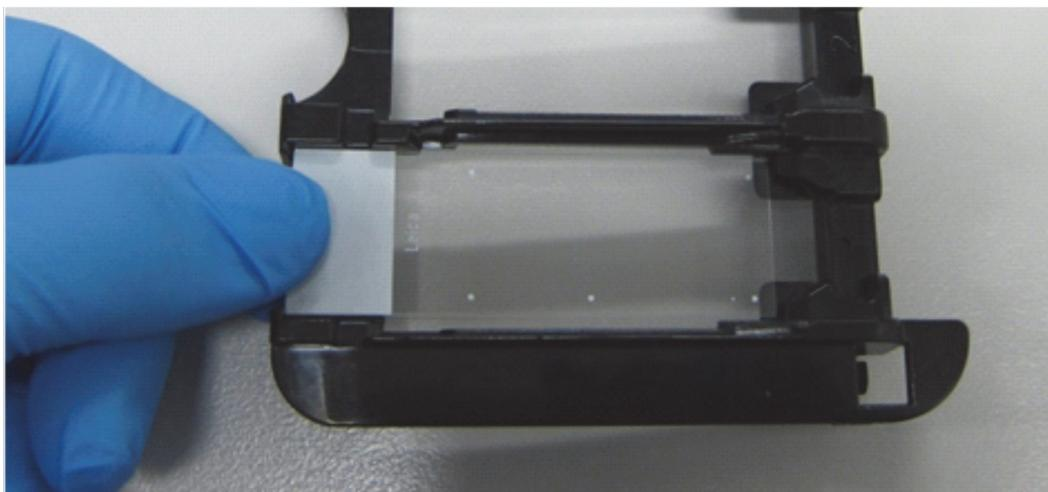

Figure 43: Positioning a slide in a slide tray
2. Orient the slide over an empty position on the slide tray, with the label end of the slide over the indent in the side of the tray (see Figure 43). Place the slide down so it sits in the recessed position in the tray.